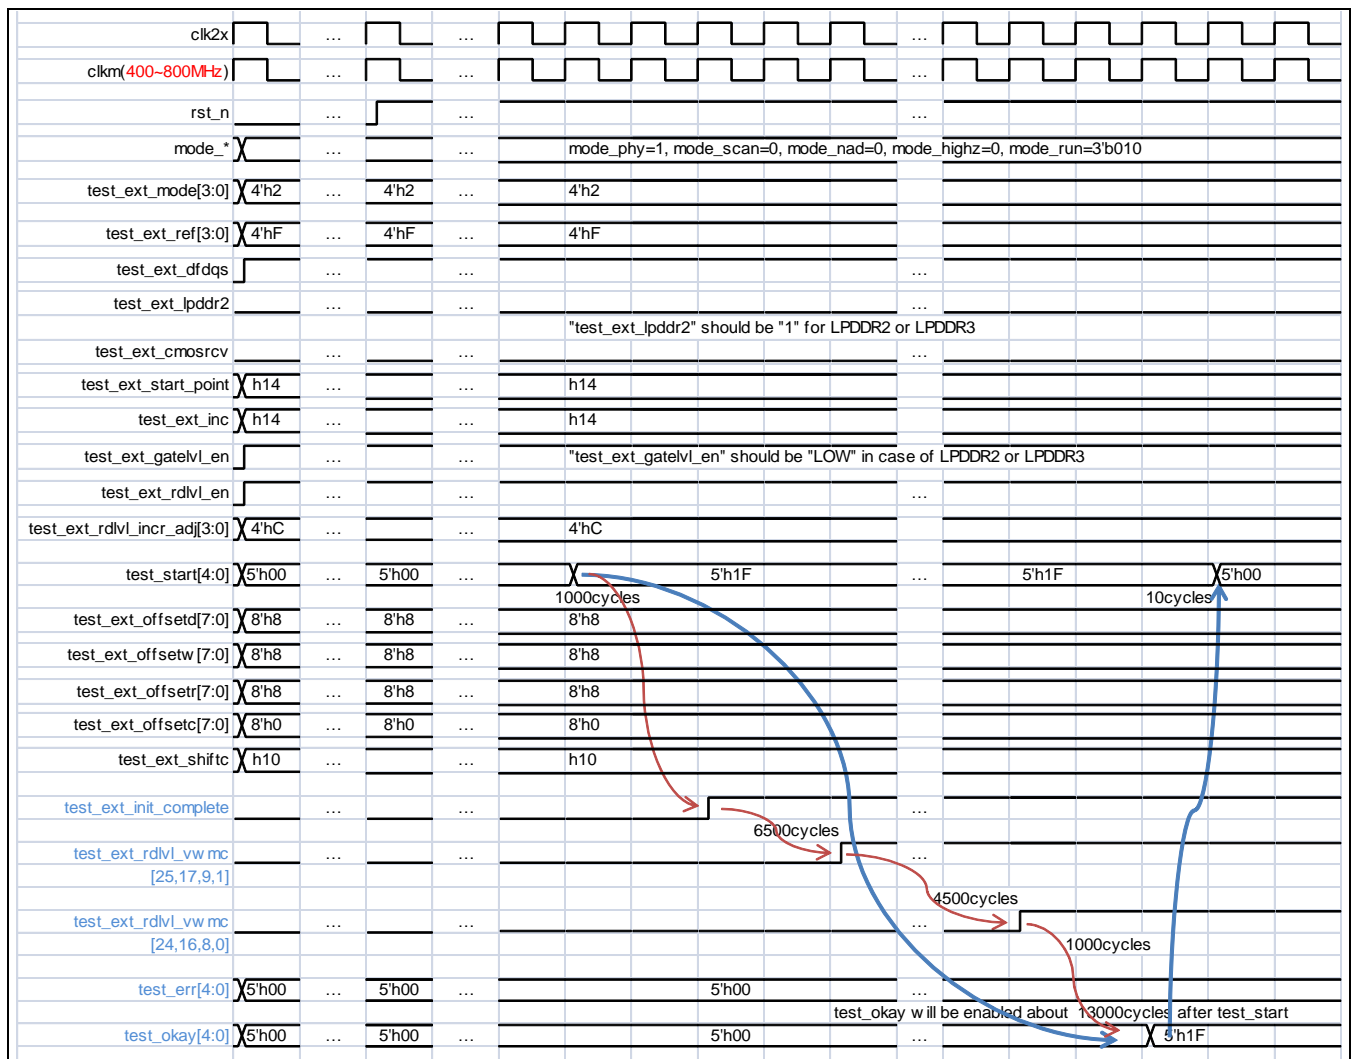
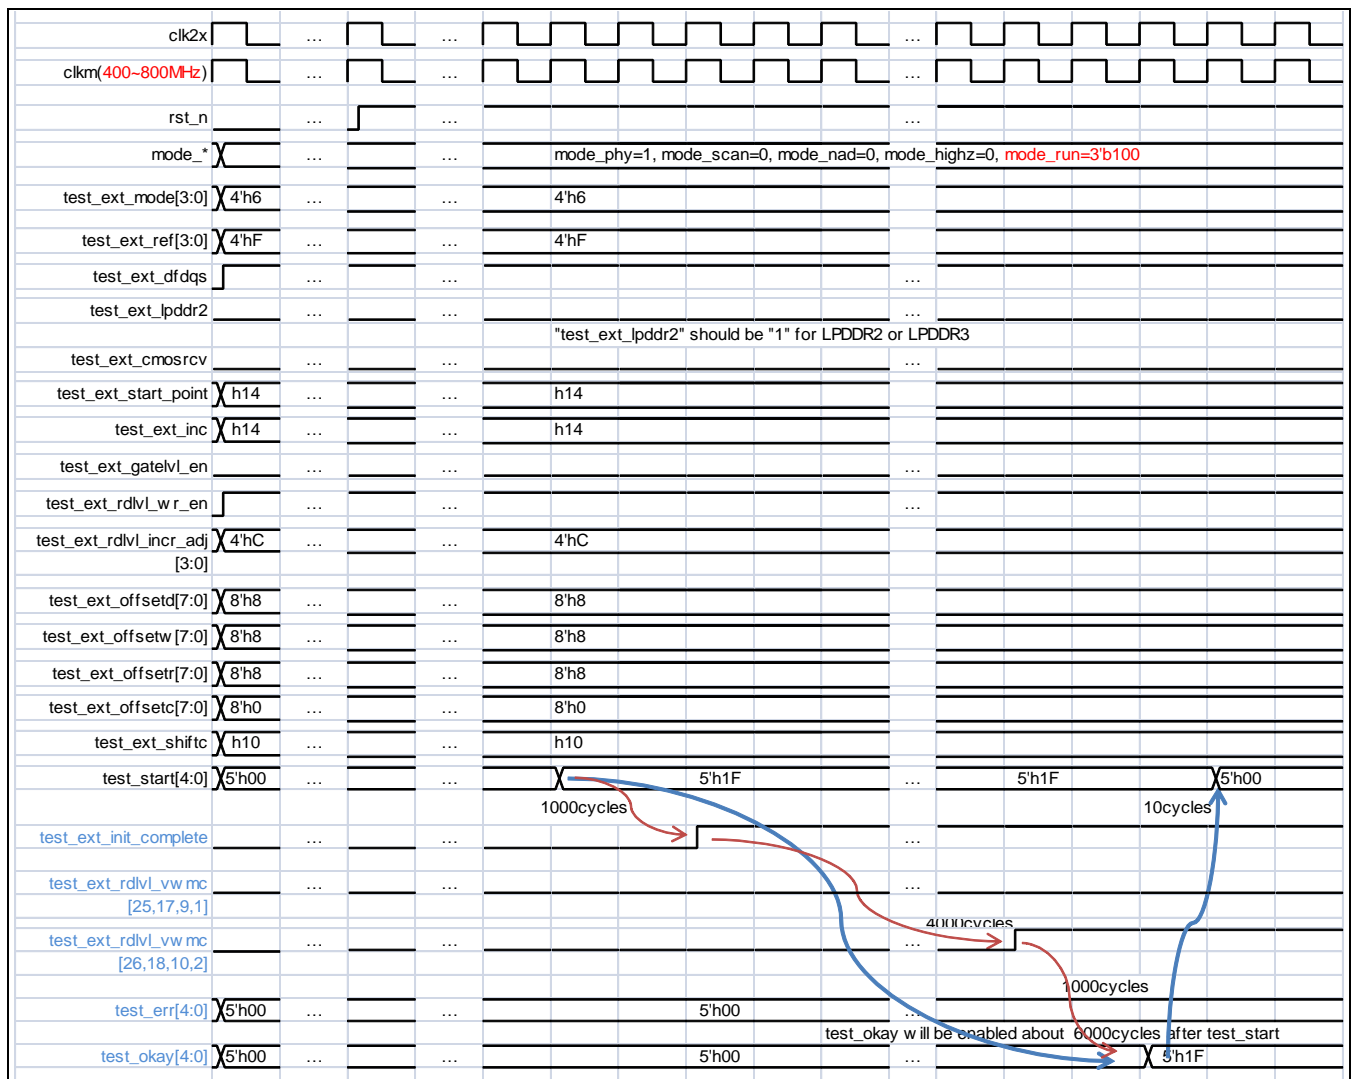

Figure 7-3. PHY Read Feedback
Figure 7-4. PHY Write Feedback
- Set "test_ext_mode", "mode_*" and so on (Please refer to Figure 7-3, Figure 7-4 for more details)